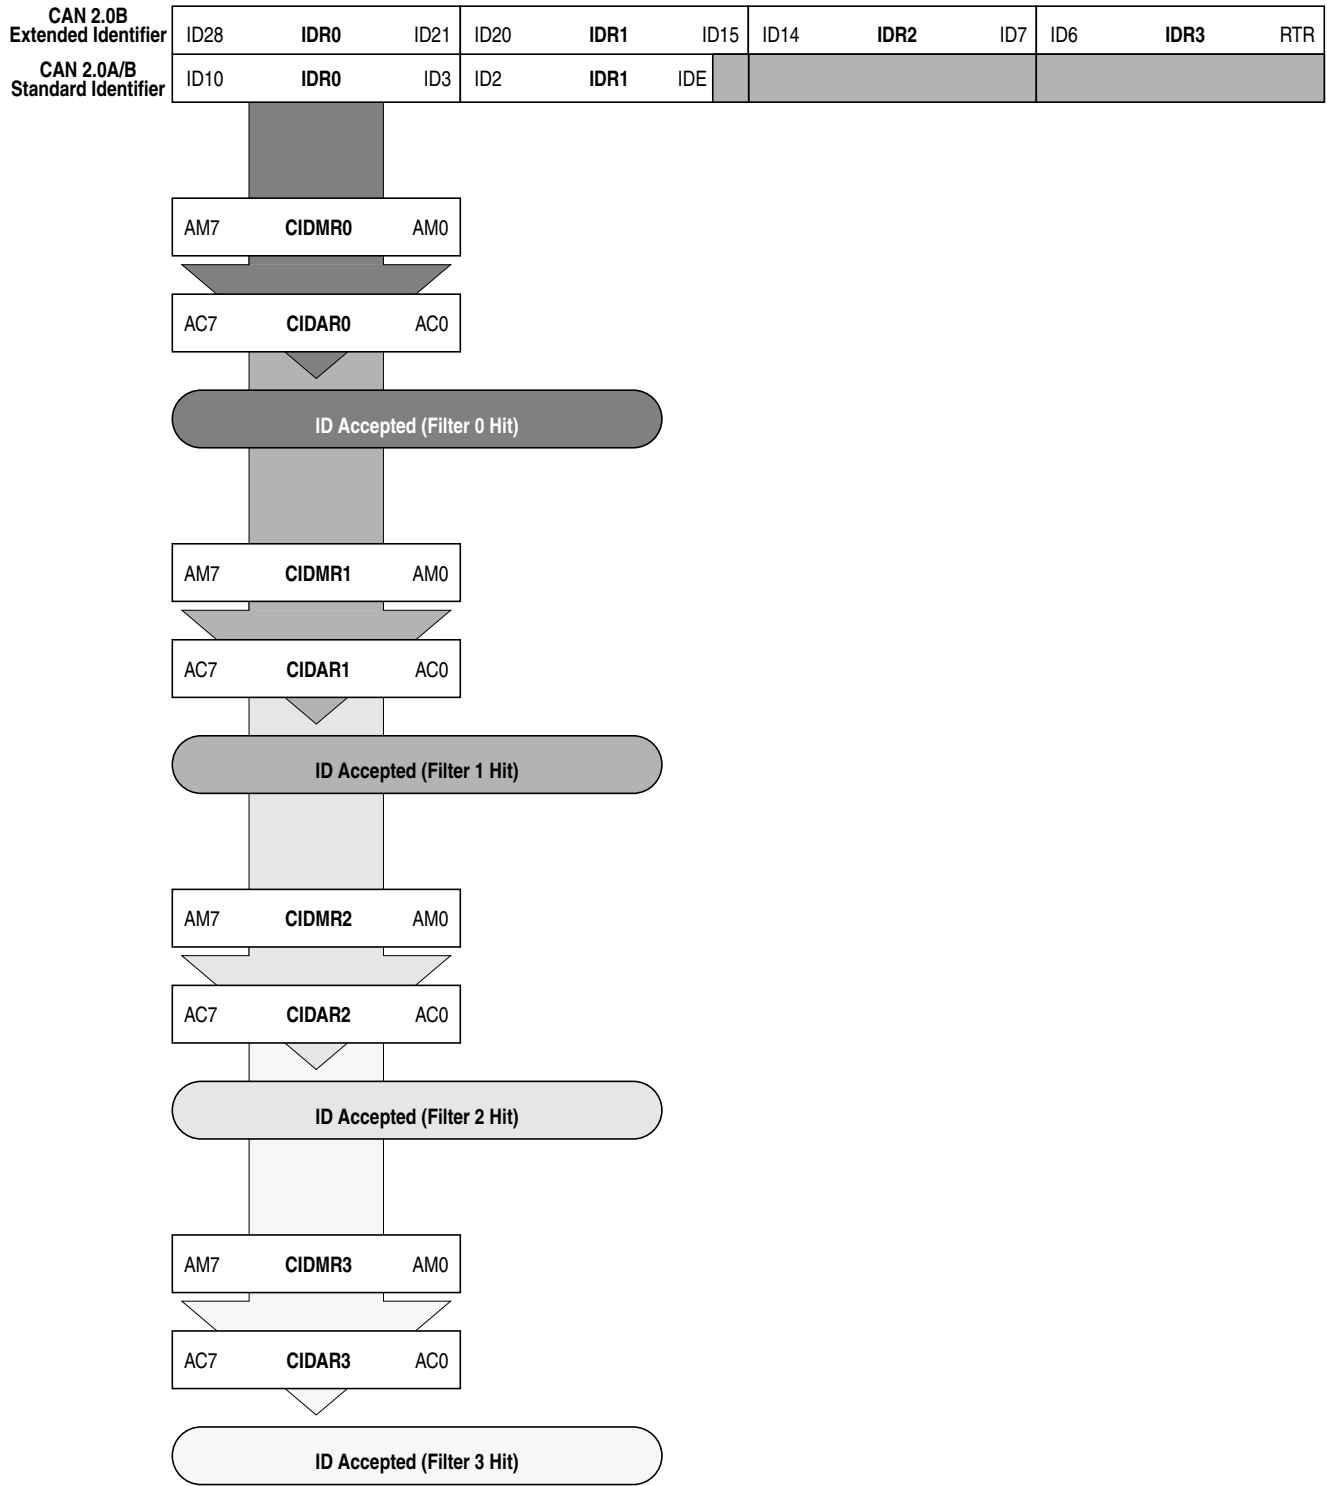

Figure 10-41. 8-bit Maskable Identifier Acceptance Filters
- Eight identifier acceptance filters, each to be applied to the first 8 bits of the identifier. This mode implements eight independent filters for the first 8 bits of a CAN 2.0A/B compliant standard identifier or a CAN 2.0B compliant extended identifier. Figure 10-41 shows how the first 32-bit filter bank (CANIDAR0–CANIDAR3, CANIDMR0–CANIDMR3) produces filter 0 to 3 hits. Similarly, the second filter bank (CANIDAR4–CANIDAR7, CANIDMR4–CANIDMR7) produces filter 4 to 7 hits.